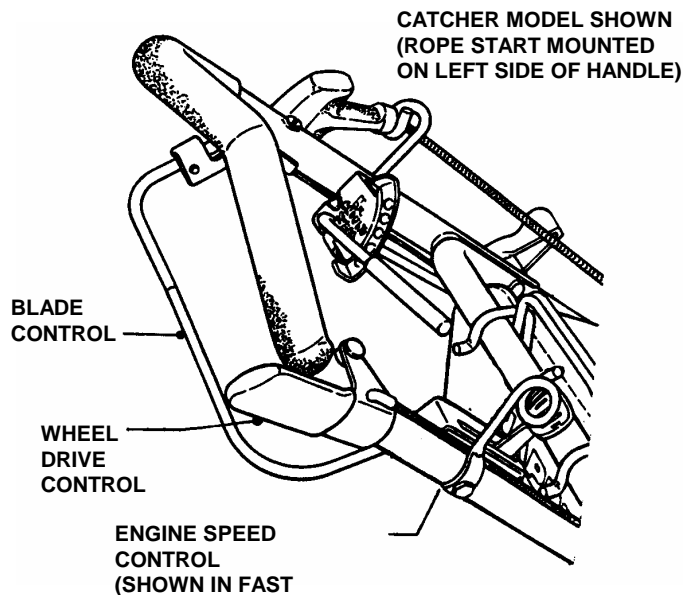

FIGURE 2.3
1. Move engine speed control to the "Fast" (Rabbit) position. See Figure 2.3.